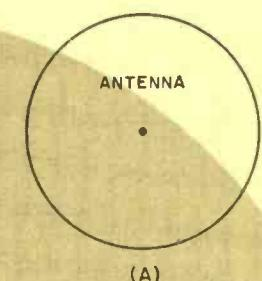

Fig. 2. Polar diagrams for antennas: (A) isotropic; (B) dipole; (C) beam.
**Omnidirectional Antennas with Gain.** This class of antennas offers some gain over the simple types without sacrificing directivity. No, that's not a contradiction of what was said previously. (You don't get something for nothing.) The increased power is taken from signal components that would be radiated at higher angles. The polar diagrams shown in Fig. 2 are two-dimensional—but antennas radiate in three dimensions. So, the radiation pat-